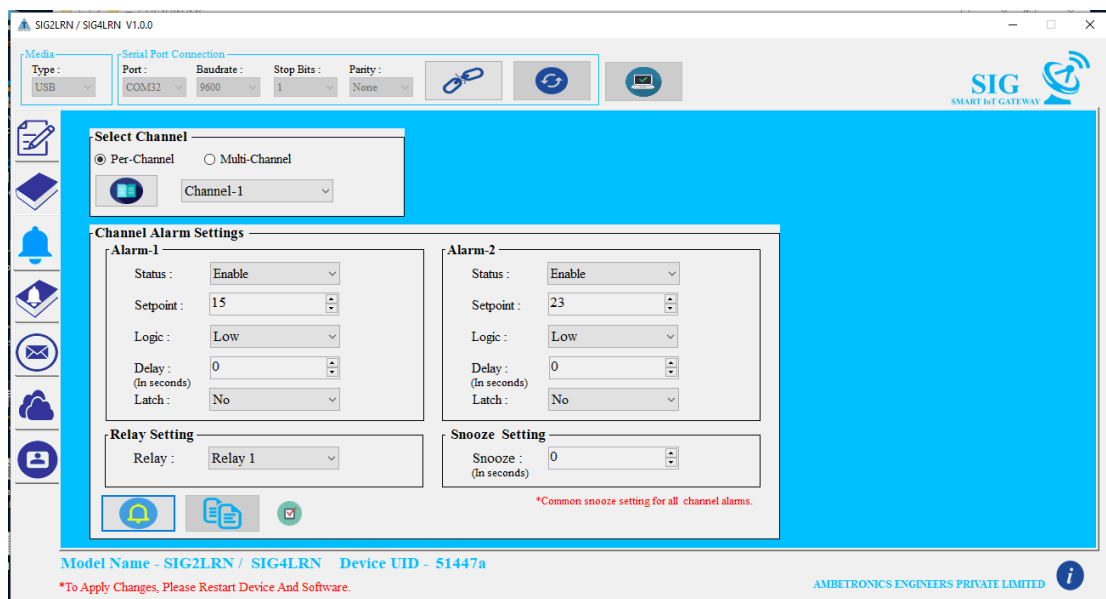

Figure 27
- After setting all parameters, click on  button. If all configurations are done successfully then  right check will appear on window or if settings are not done properly, then  wrong check will appear on window as show in Figure 27.